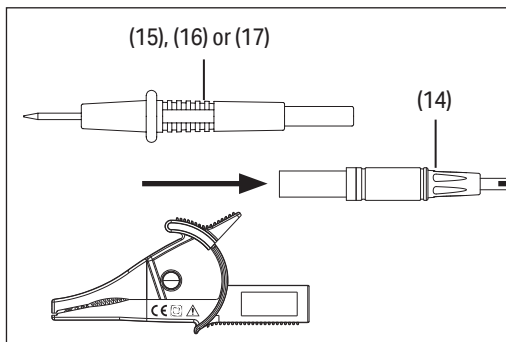
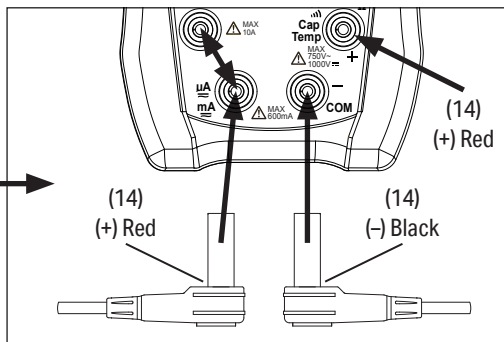

Fig. 2
Fig. 3
7.4 Using the Test leads and Probe Sets. - Fig. 2, Fig. 3